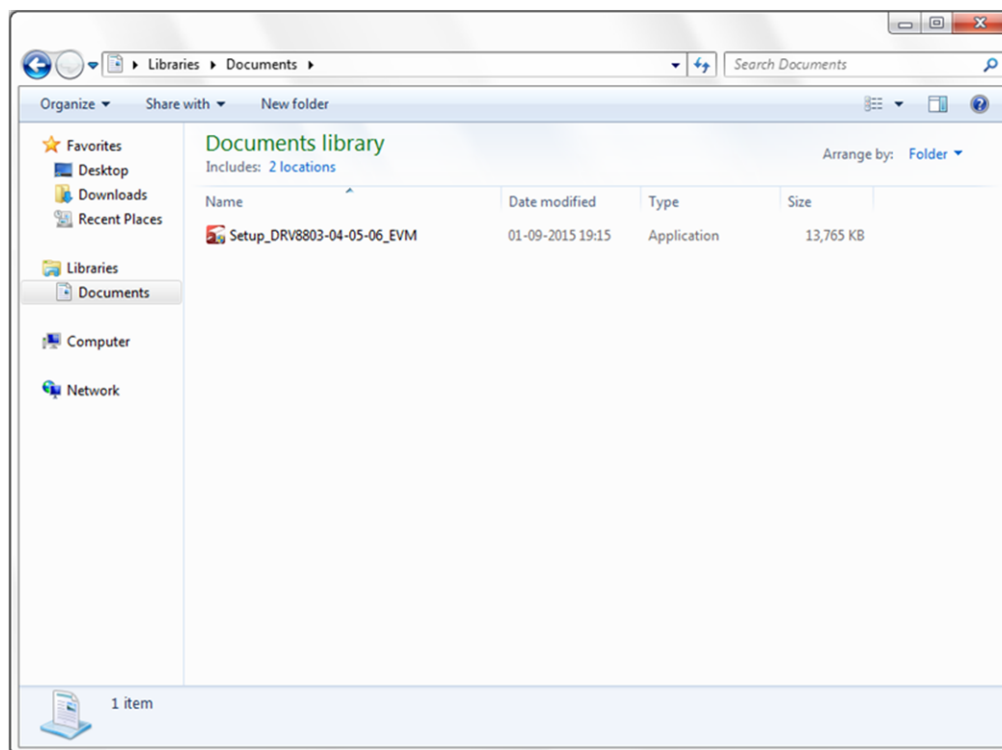

Figure 6. Setup_DRV8803/04/05/06_EVM.exe
- Double click on the **Setup_DRV8803/04/05/06_EVM.exe** as in Figure 6.